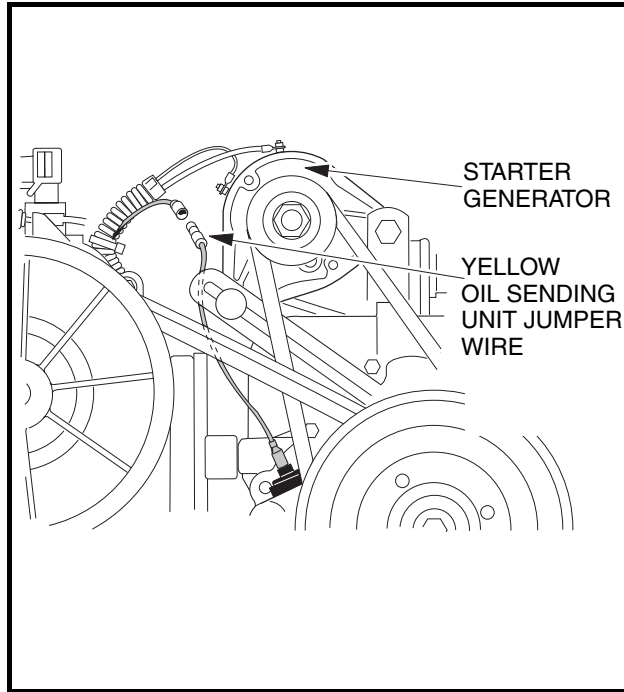

Figure 16-17 Oil Level Sensor Jumper Wire
- 4.9. Disconnect the engine oil level sensor wire (18-gauge yellow) at the connector just to the rear of the starter/generator) (**Figure 16-17, Page 16-9**).